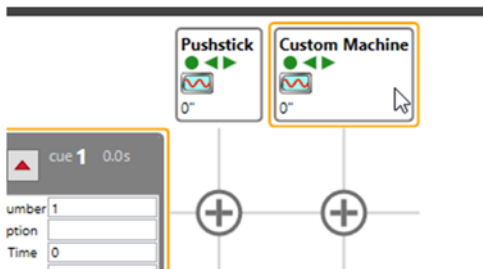

Figure 169
2. Select the machine that you just configured (Figure 169).